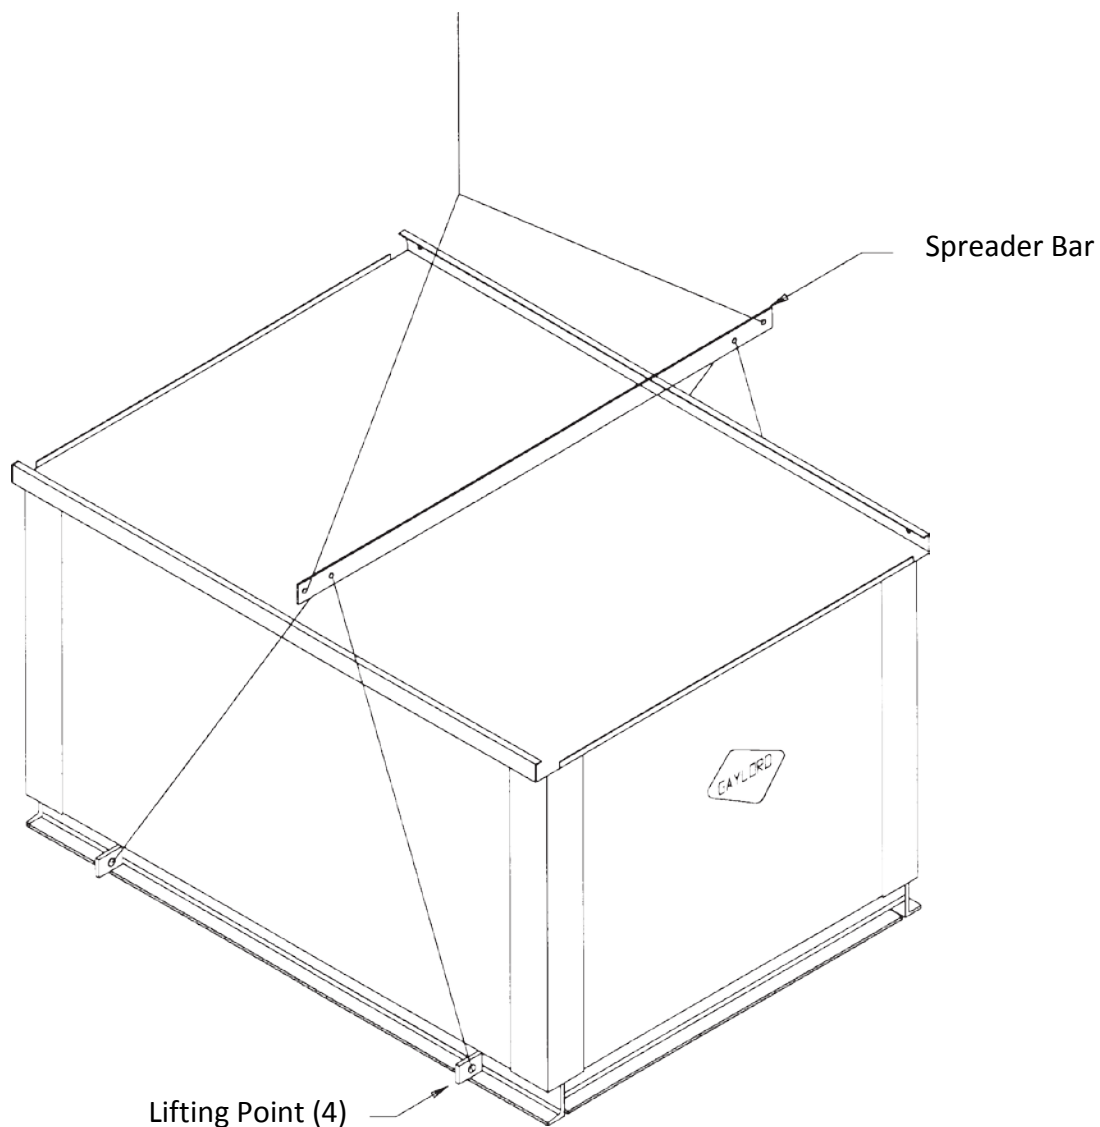

Figure A-2-1
All units are provided with a minimum of four (4) lifting points for rigging attachment. **WARNING:** Use all lifting points provided (Refer to Figure A-2-1). Spreader bars are mandatory to prevent contact and damage to the unit by lifting hooks, straps, cables, or chains. Consult the mechanical or structural engineer before moving the unit across the roof deck.